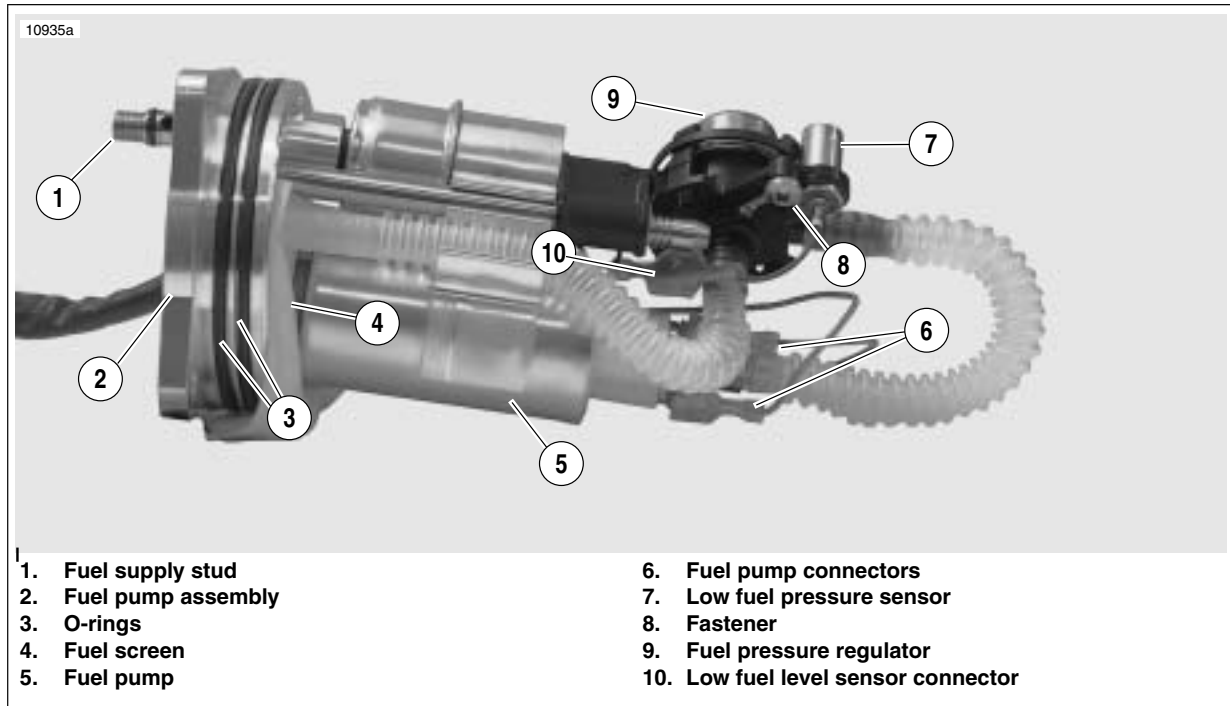
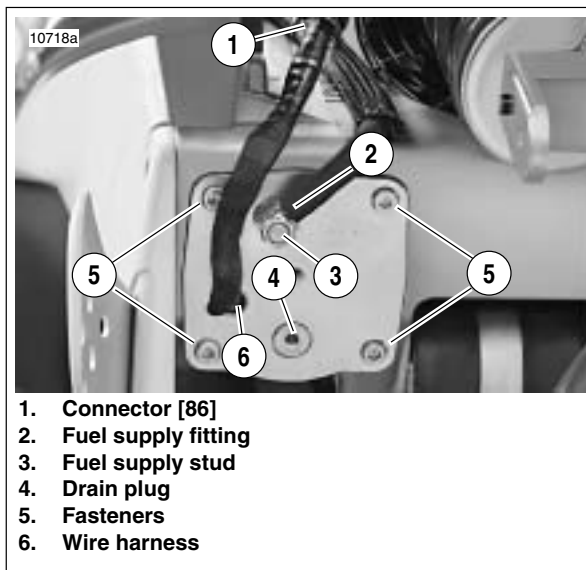

Figure 4-90. Fuel Pump Assembly
Figure 4-96. Fuel Pump Location
2. See Figure 4-90. Disconnect low fuel level sensor connector (10).
3. Remove fastener (8) securing low fuel level sensor (7) in place.
5. Install screw (8) securing sensor and tighten to 18-22 **in-lbs** (2.0-2.5 Nm).
6. Attach low fuel level sensor wire connector (10).
1. See Figure 4-90. Replace o-rings (3). Lubricate **new** o-rings with **clean** engine oil.
2. Install **new** o-rings on fuel supply stud (2). Larger o-ring is located in groove closer to fuel pump.
3. See Figure 4-96. Insert fuel pump into frame until resistance is felt.
4. Insert four screws (5) through fuel pump and into frame.